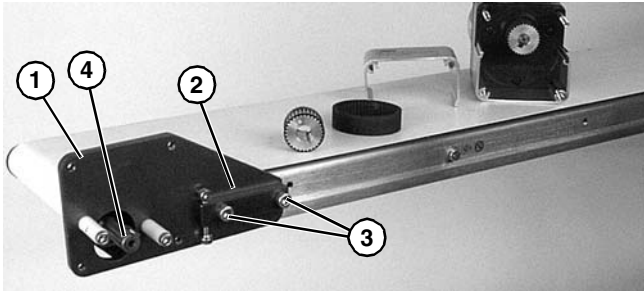

Figure 5
- Attach mounting bracket (**Figure 5, item 1**) and tensioner bar (**Figure 5, item 2**) with screws (**Figure 5, item 3**). Hand-tighten screws (**Figure 5, item 3**).
- Install key (**Figure 5, item 4**).